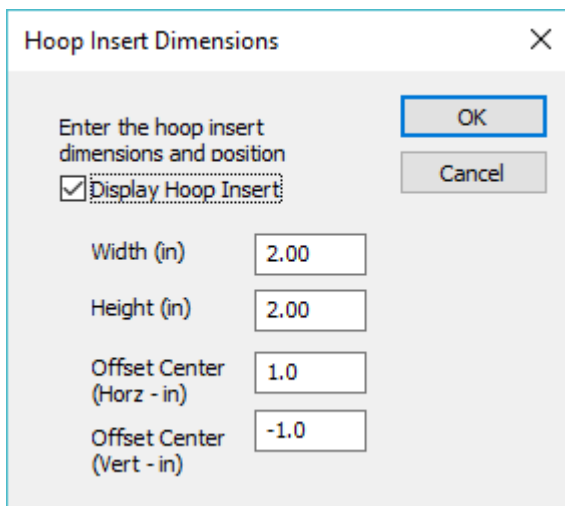

Fig 3 Dialog for displaying and setting the Hoop Insert dimensions
- **Hoop Insert** Displays (or hides) a user-selectable hoop insert (for example, a "Fast Frame"). When this button is clicked, the hoop insert dimensions dialog is displayed (see Fig. 3). You can set the width and height for the insert hoop, and whether or not it will be displayed in the **SewWhat-Pro** workspace. If the width or height of the insert exceeds the hoop dimensions, it will not be displayed even if the display check box is checked. The position of the hoop insert *relative* to the hoop center can be set with the "Offset Center" values. For the Horz(izontal) setting, positive values will move the insert center to the right of the hoop center and negative values move it to the left. For the Vert(ical) setting, positive values will move the insert center up relative to the hoop center and negative values move it down. This is useful for non-centered hoop inserts.
- **User Hoops** On the far right of the tab list (use the horizontal scroll arrows to get there) is a special *User* hoop tab. You can enter your own special hoop sizes there by typing into the edit box the width (W) and the height (H) of the hoop in the presently selected units (mm or in). Be sure to enter this information in the format **W X H** . Note that this feature is included as a convenience for on-screen display, but in general, the user hoop will *not* be retained when the file is saved. Rather, the nearest available hoop for that embroidery type will be used.